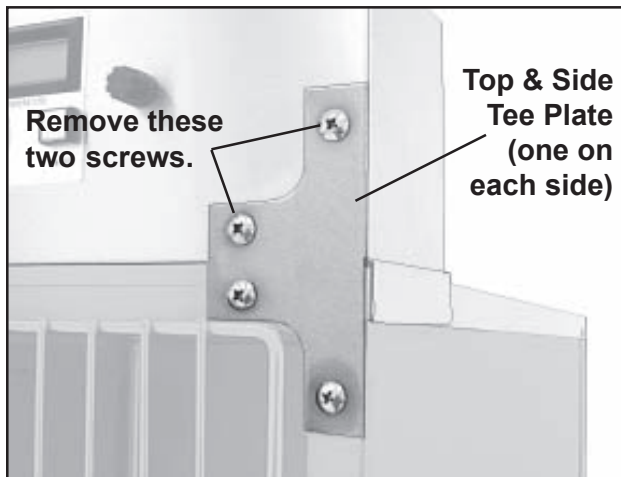

Figure 17. Top & Side Tee Plate
3. With a Phillips screwdriver, unscrew the top two screws on both side & tee plates to release the heat controller housing (Figure 17).
9. Fasten the heat connector housing securely to the two top & side tee plates (Figure 17).
11. Fasten the heat connector housing securely to the two top & side tee plates (Figure 17).